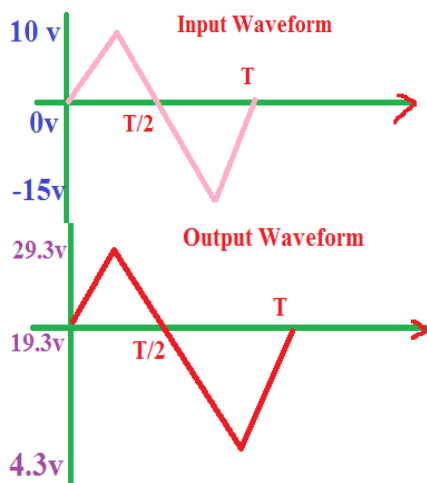

Fig.8: Input and Output waveform of clamper circuit
14. Because input and output waveforms are sinusoidal value, hence it will have some positive cycle value and negative cycle value from the origin, shown in figure 8. So, we can easily determine the origin point of the output waveform.